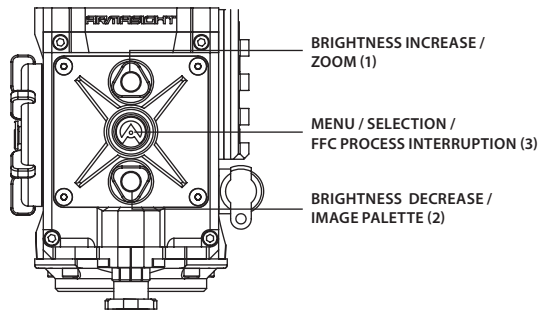

FIGURE 3-17. SETTING BUTTONS
6. Using the buttons on the control panel (Figure 3-17), configure the Helios to adapt it to your situation.